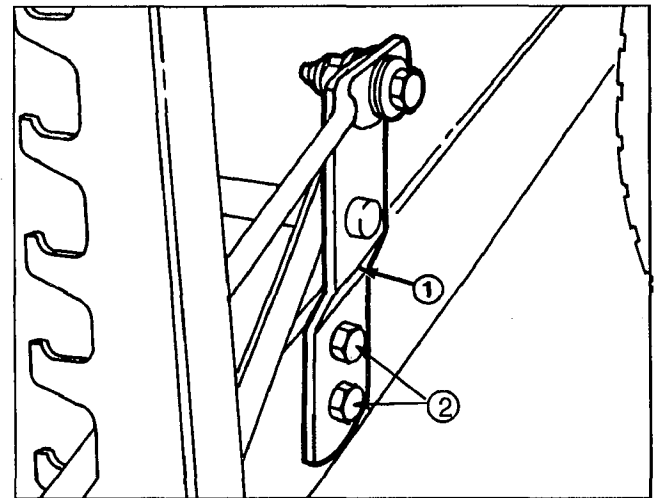

Figure 34
5. If blade tip height is not within 1/8 inch (3 mm), level cutting unit by loosening height-of-cut support bracket capscrews and raising or lowering the bracket (Fig. 34).